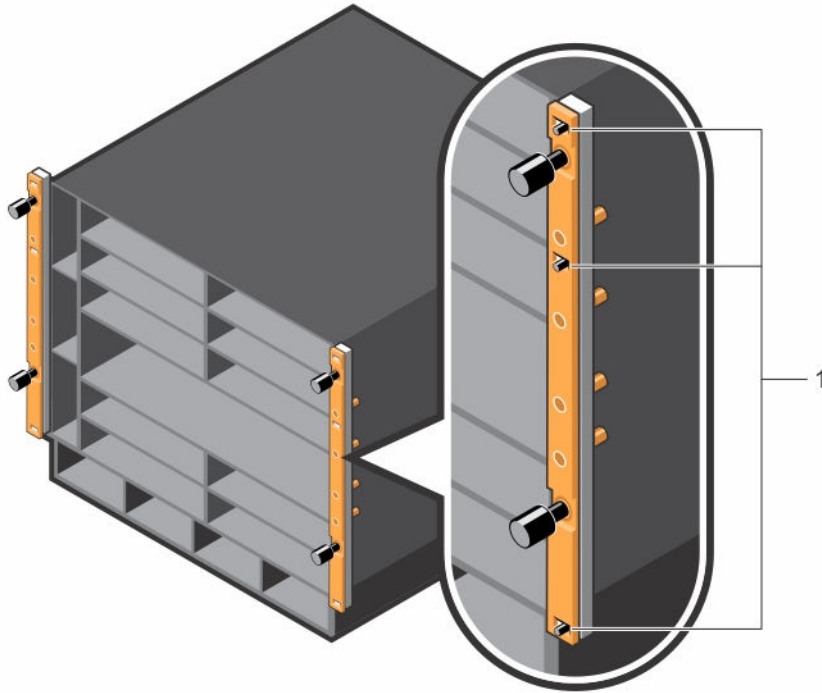

Figure 26. Installing Cable Management Brackets on the Chassis Flanges
1. Align the openings on the inside of a bracket with the pins (item 1 in Figure 26) and thumb screws on each chassis flange.